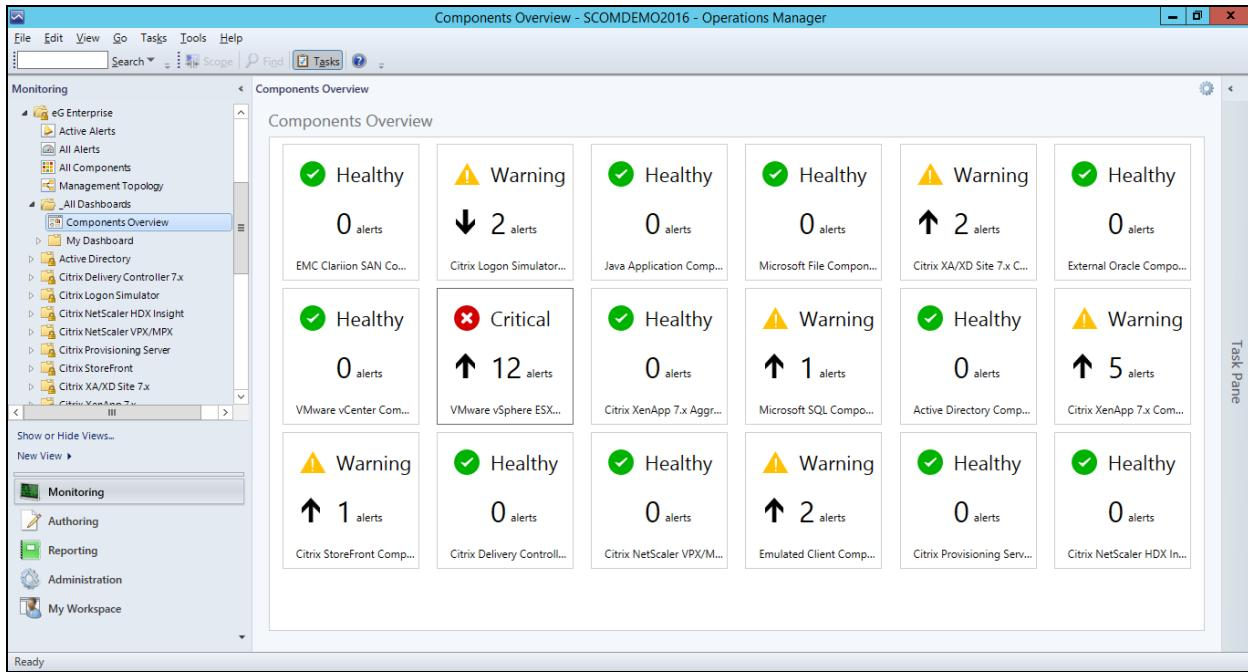

Figure 4.14: The Components Overview Dashboard
1. In the tree-structure in the left panel of the SCOM console, expand the **_All Dashboards** sub-node under the **eG Enterprise** node. Then, click the **Component Overview** node within. This will present to you a **Components Overview** dashboard, as depicted by Figure 4.14.